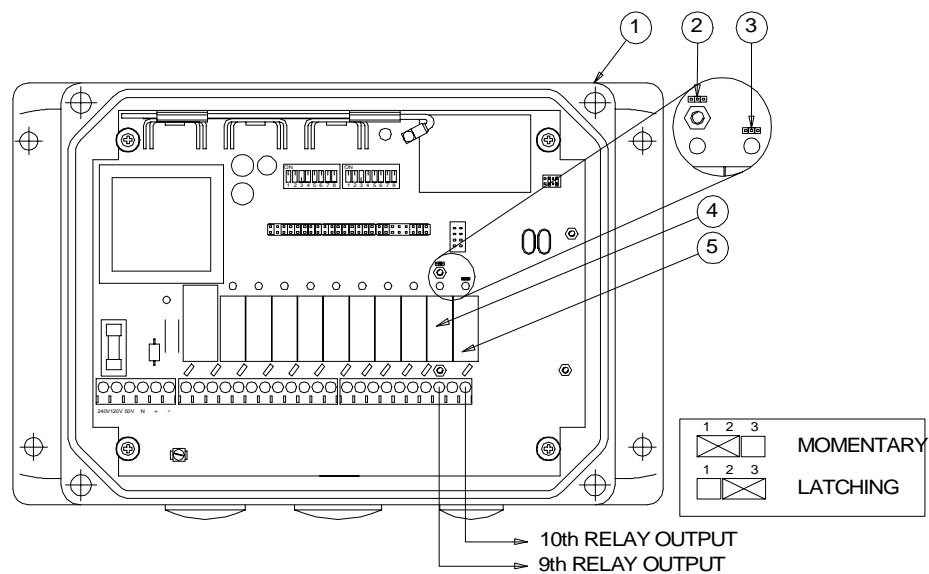

Figure 2.13: Changing the Latching Function
2. Reference Figure 2.13: Changing the Latching Function to locate the Latching Function Jumper Blocks inside the receiver. For momentary control place the jumper on pins 1 and 2 (factory setting). For latching control place the jumper on pins 2 and 3.